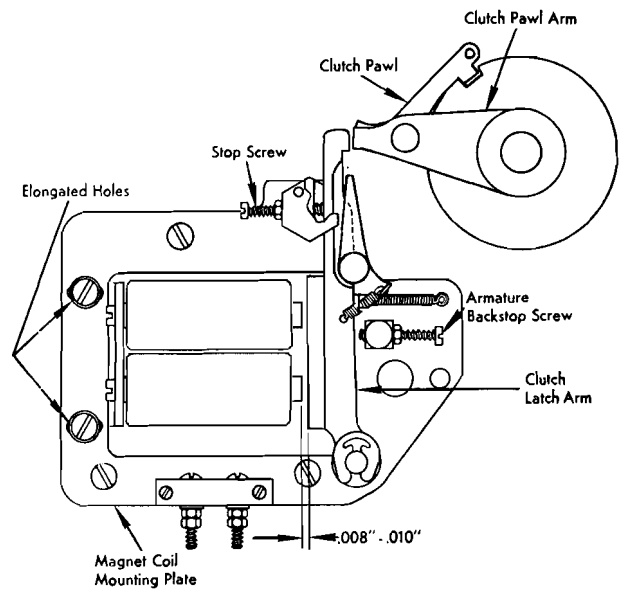

Figure 31. Clutch Adjustment
4. Move the magnet coil mounting plate in elongated holes to provide for .008" to .010" clearance between the armature and cores when the latch is against the stop screw (Figure 31).